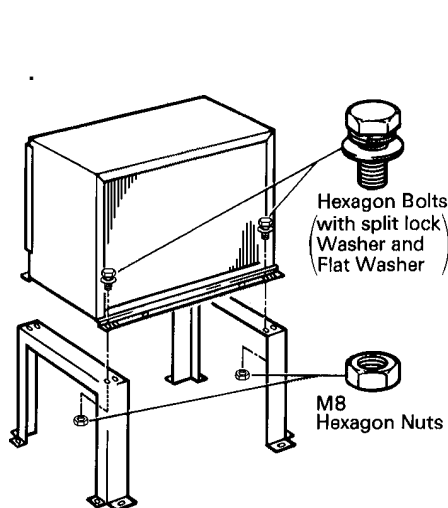

Fig. 5
- 1) Secure the legs to the condenser unit with eight M8 x 16 mm hexagon bolts and M8 nuts as shown in the illustration. See Fig. 5.